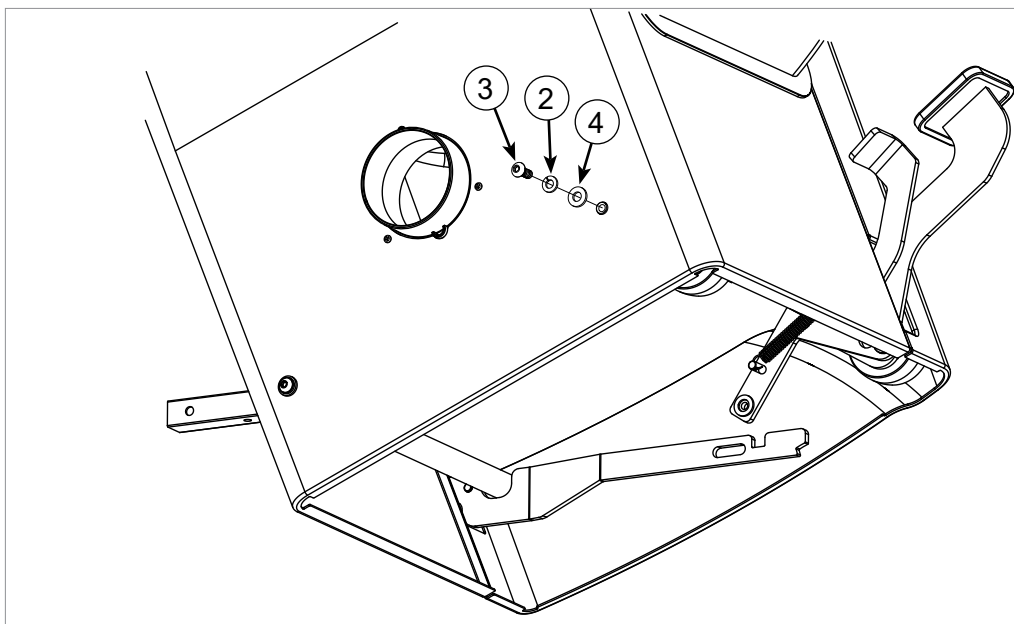

Fig. 33
15. Insert the mounting shoulder on the rear end of the wheel assembly through the mounting hole on the rear of the cabinet and secure that end to the cabinet with one M8 x 20 button head socket bolt, one M8 x 13.6 lock washer, and one M8 x 18 washer (see Fig. 33). Fully tighten the bolt using a 5 mm hex key.